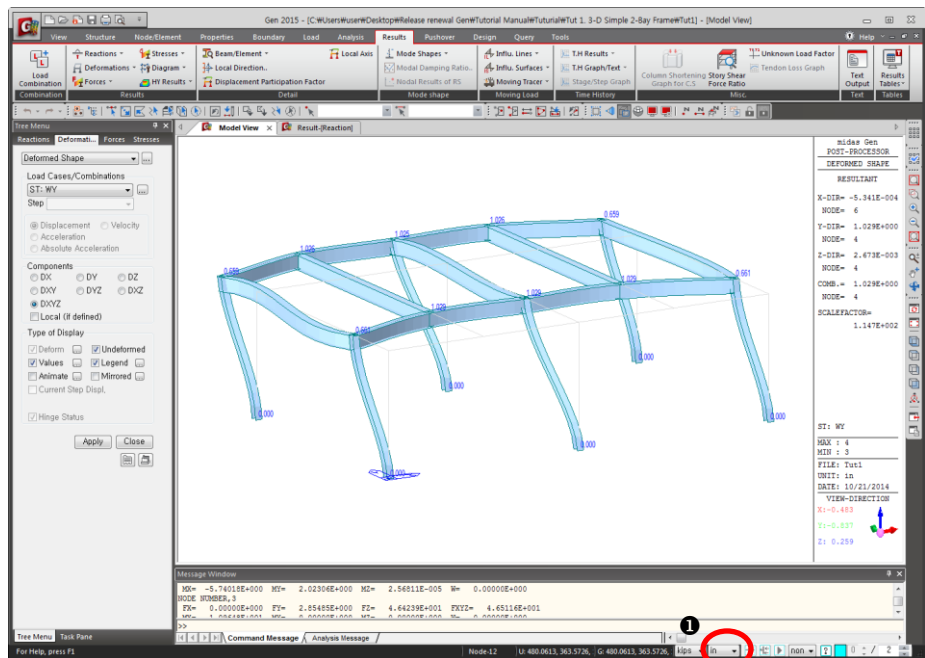

Figure 1.27 Deformed Shape (Scale Factor = 5.0)
5. Click  in the unit conversion button at the bottom of the window (Fig.1.27–①) and select “**in**”.